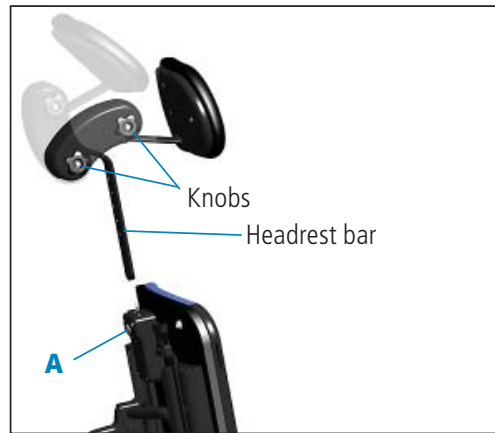

Figure 21a
To install headrest and adjust headrest height, depress white button (A), insert metal headrest bar and raise or lower it to desired setting. Release button and make sure headrest clicks into place (see Figure 21a).
To adjust depth and angle of headrest, loosen both black knobs (see Figure 21a). Move headrest to desired position and tighten both knobs securely.